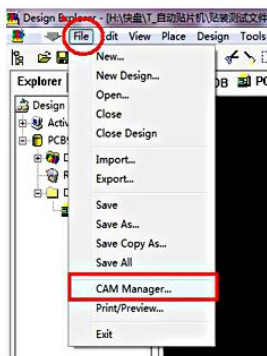
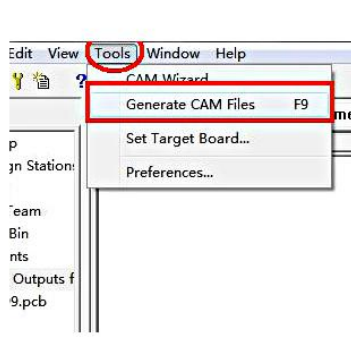
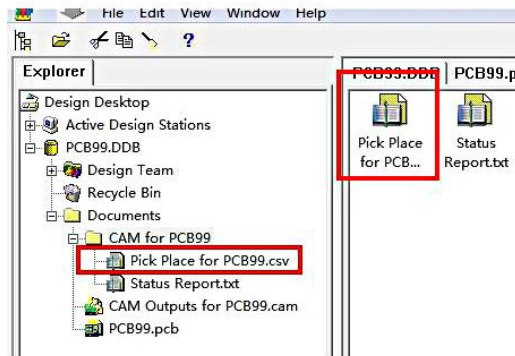

Figure 3.2.5
Figure 3.2.6
Figure 3.2.7
Step 2: as shown in Figure 3.2.5, firstly selecting CAM Manager with left click, deriving the coordinates according to steps of Figure 3.2.8, and finding the file according to Figure 3.2.6 and Figure 3.2.7; the file has the name suffix of .csv.